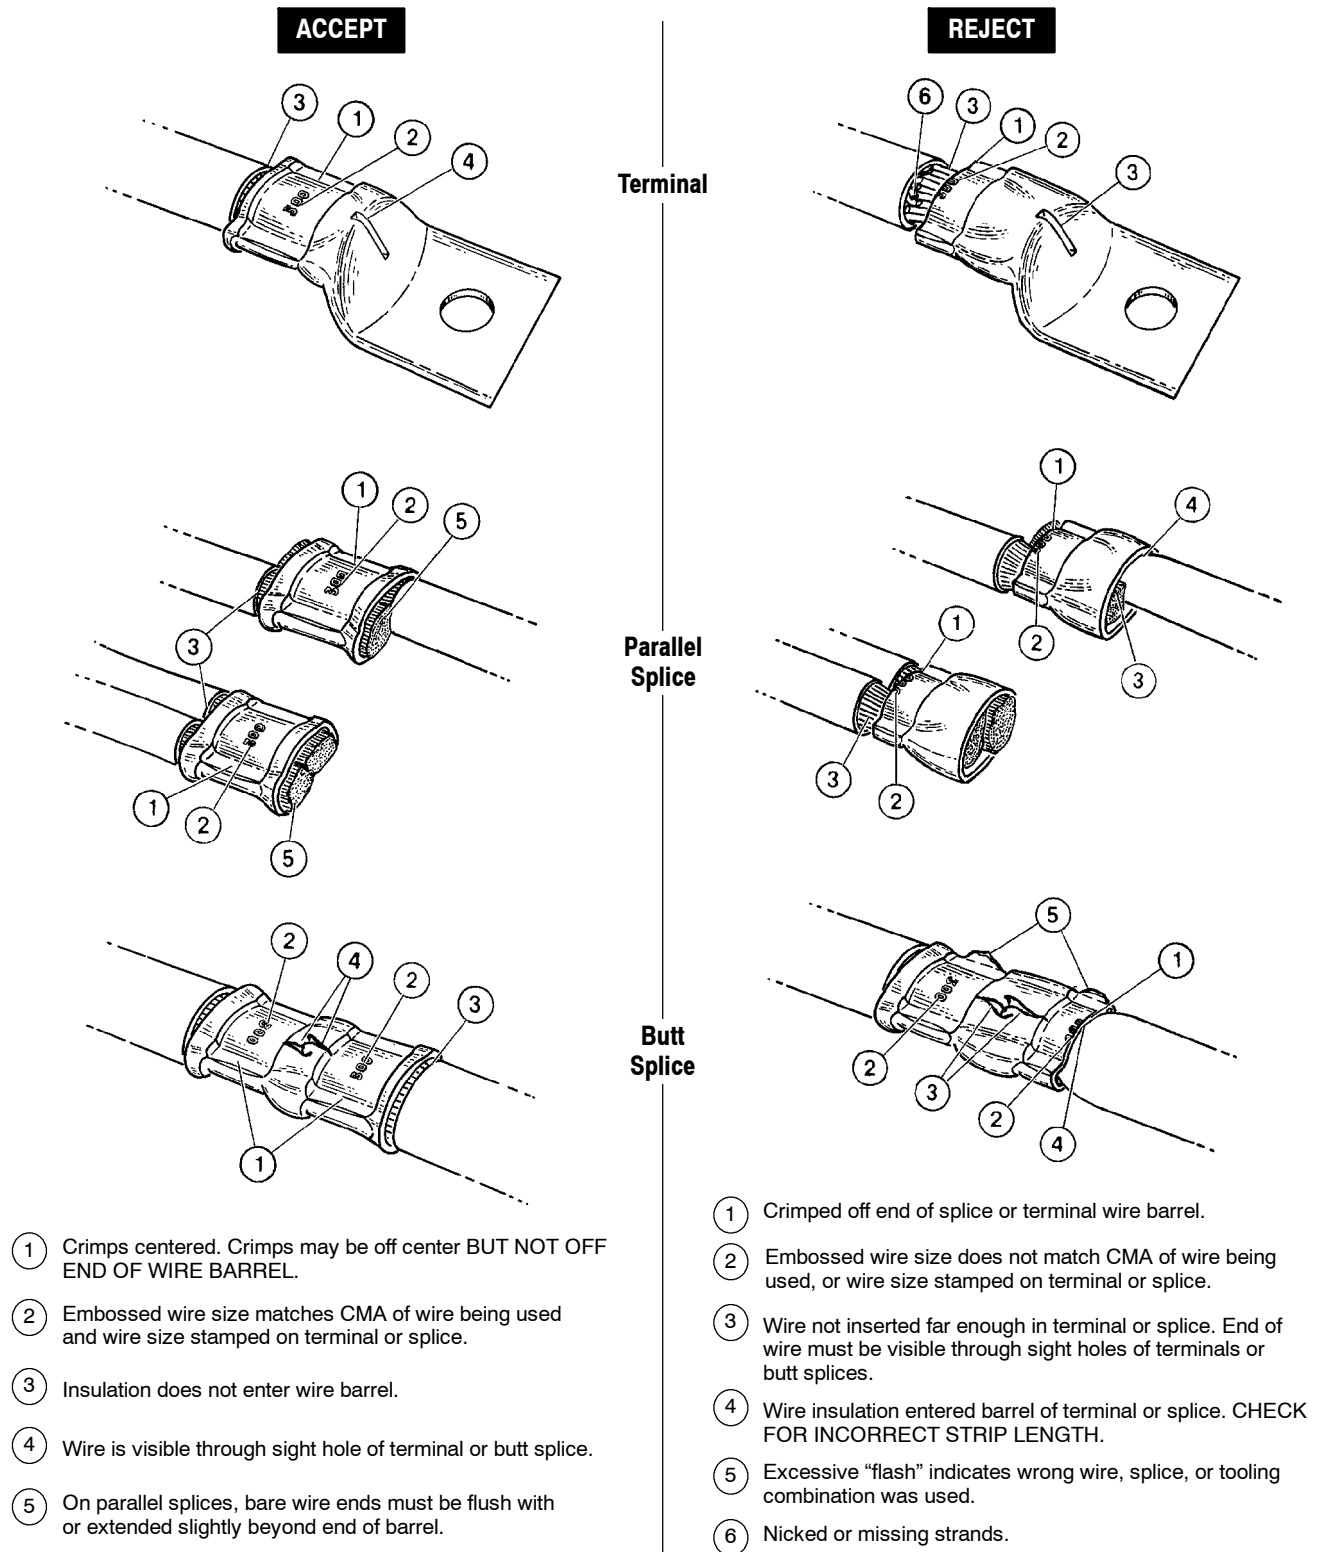

Figure 5
8. Inspect the crimp by referring to Section 5, CRIMP INSPECTION, and to Figure 5.
Inspect crimped terminals and splices by checking the features described in Figure 5. Use only terminals and splices that meet the conditions shown in the "ACCEPT" column of Figure 5. Unacceptable
terminals and splices, as depicted in the "REJECT" column of Figure 5 can be avoided through careful use of the instructions in Section 4 and by performing regularly scheduled die maintenance as described in Section 6.